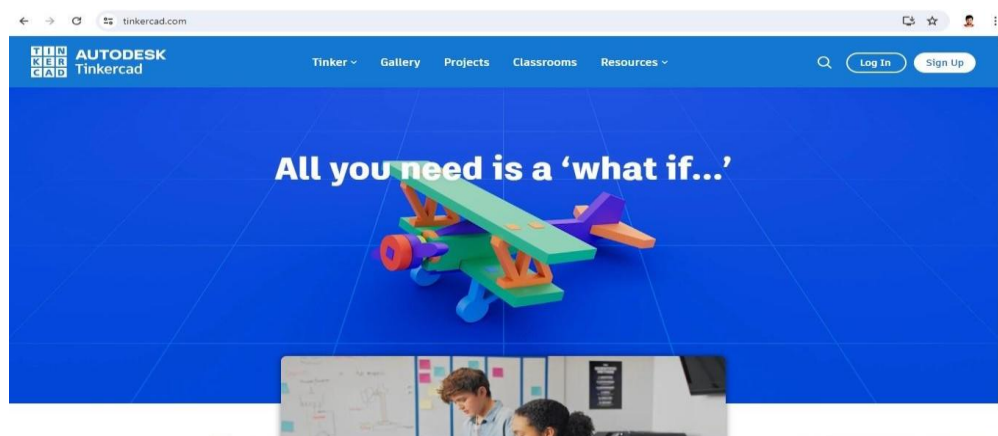

Fig. 4.1: Sign up on Tinkercad
2. Click on Sign Up and follow the steps to create your own account (Fig. 4.1)